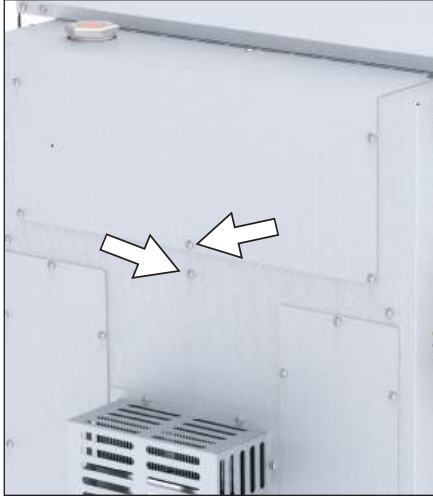

Fig. 15 Install tilt protection on the back-side
1. Install the tilt protection at the two provided positions on the appliance (Fig. 15).
2. Turn the tilt protection upwards by 90° twice (Fig. 15).